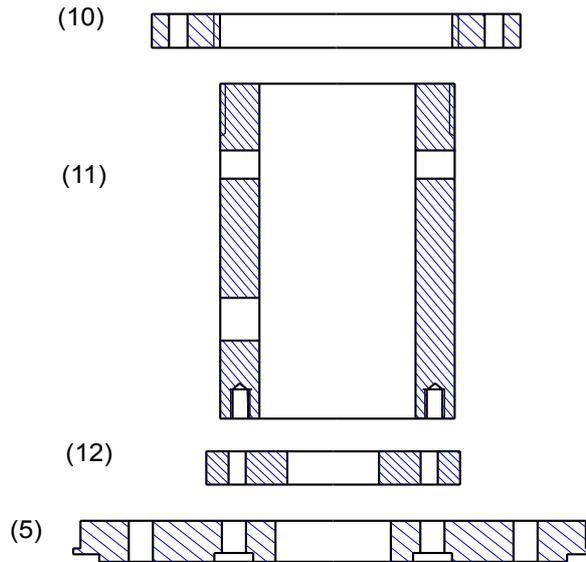

Fig. 6 Piston tube unit
Column pistons are equipped on both sides by Swagelok® connecting units for tube with O.D. 1/2" (12,5 mm). Bottom piston flange is connected directly to the hydraulic stand platform. Upper piston unit is connected to the piston tube unit to be jointed to stand upper platform (see Fig 6). Piston tube unit consists of a upper flange (10), own tube (11) and piston unit support (12).